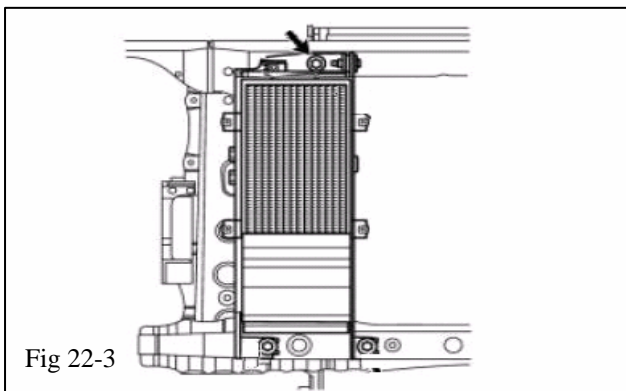

Fig 22-3
- (e) For tow package vehicles only, unbolt the transmission oil cooler top bolt and let it hang out from the radiator upper cross member (Fig 22-3 & 22-4). Leave the fluid lines attached.